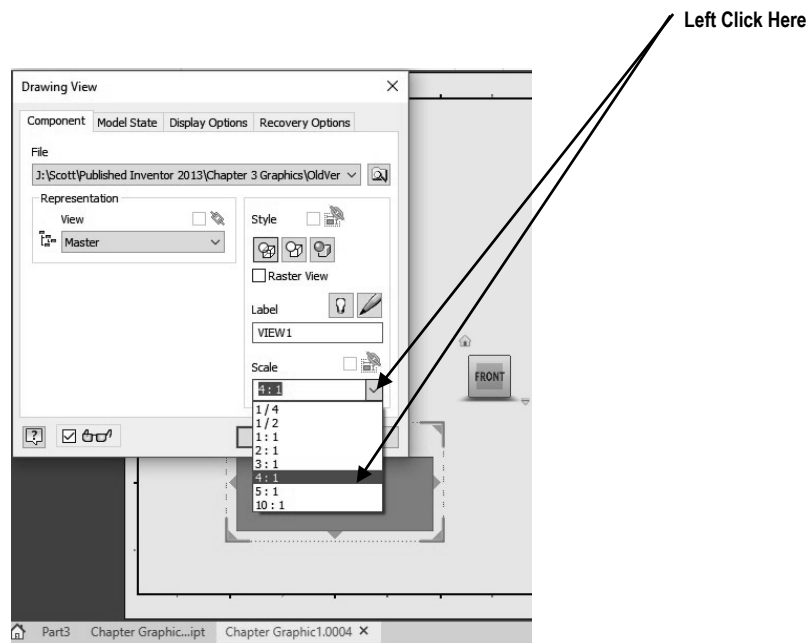

Figure 15
19. Left click on the **Scale** drop down box and set the drawing scale to **4:1** (if it is not already set to 4:1). The size of the wedge block will become larger as shown in Figure 15. Left click on **OK**.